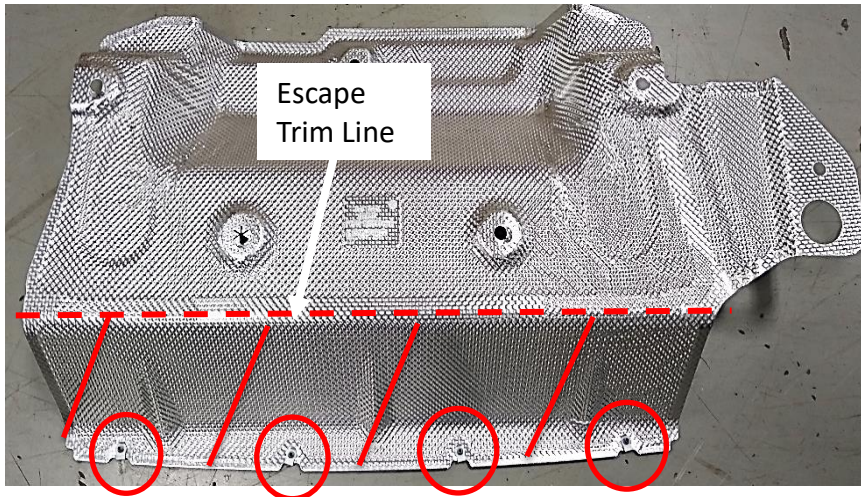

Figure 2
1. Lower vehicle exhaust - Using an exhaust hanger removal tool, lower muffler by removing (1) rearmost driver side rubber hanger and (1) rearmost passenger side rubber hanger. **Note:** Be sure that exhaust is supported before removing rubber hangers. A spray lubricant or soapy water on rubber hangers makes them slide off metal pins more easily.
2. Trim Heat Shield – Remove (4) screws securing heat shield and trim as shown in **Figure 2** (Ford Escape) & **Figure 3** (Lincoln Corsair). Return screws and trimming area to owner. **Note:** Heat shield can be trimmed without fully removal.